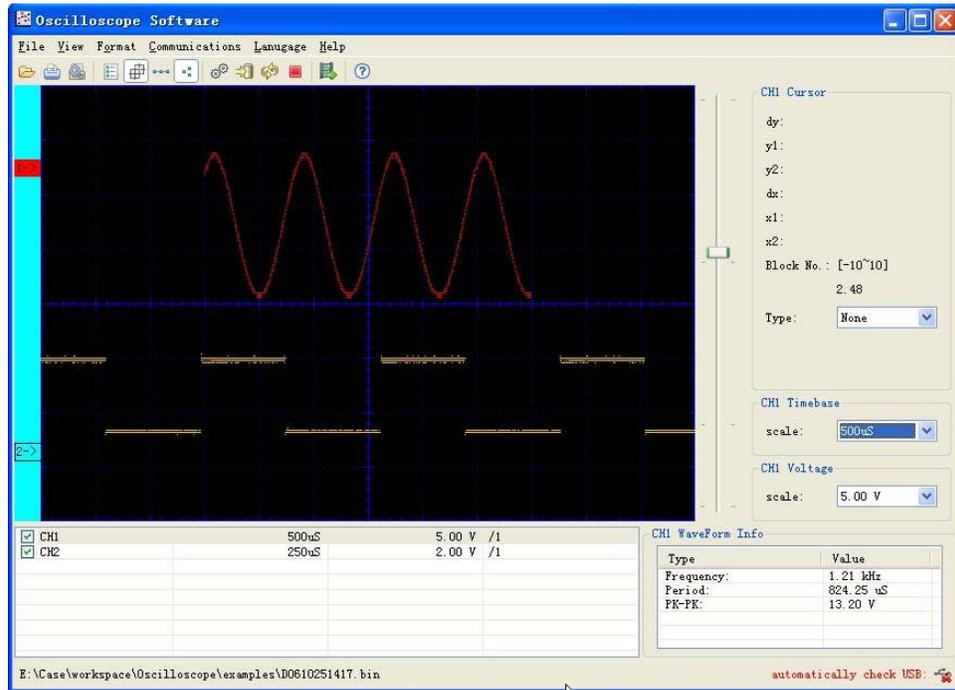

Figure 5-1-2 – Waveform Time Base and Voltage scale
4. Set the Time Base (Fig. 5-1-2)